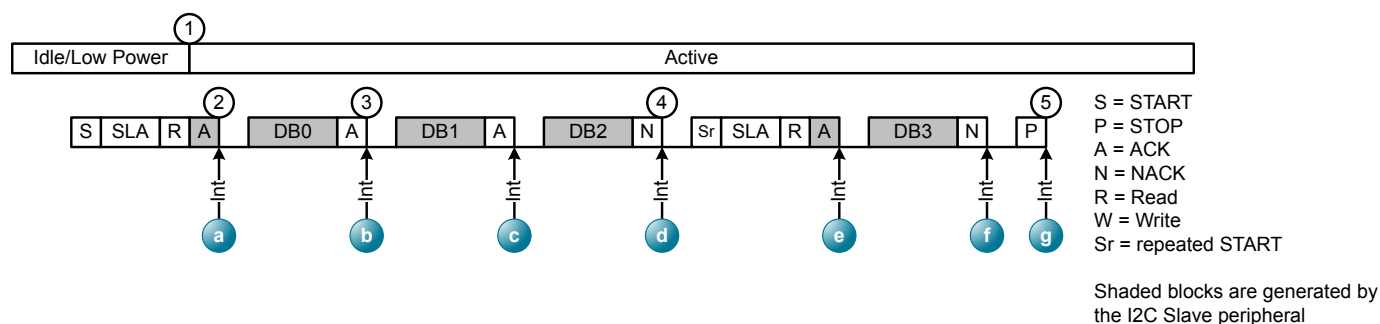
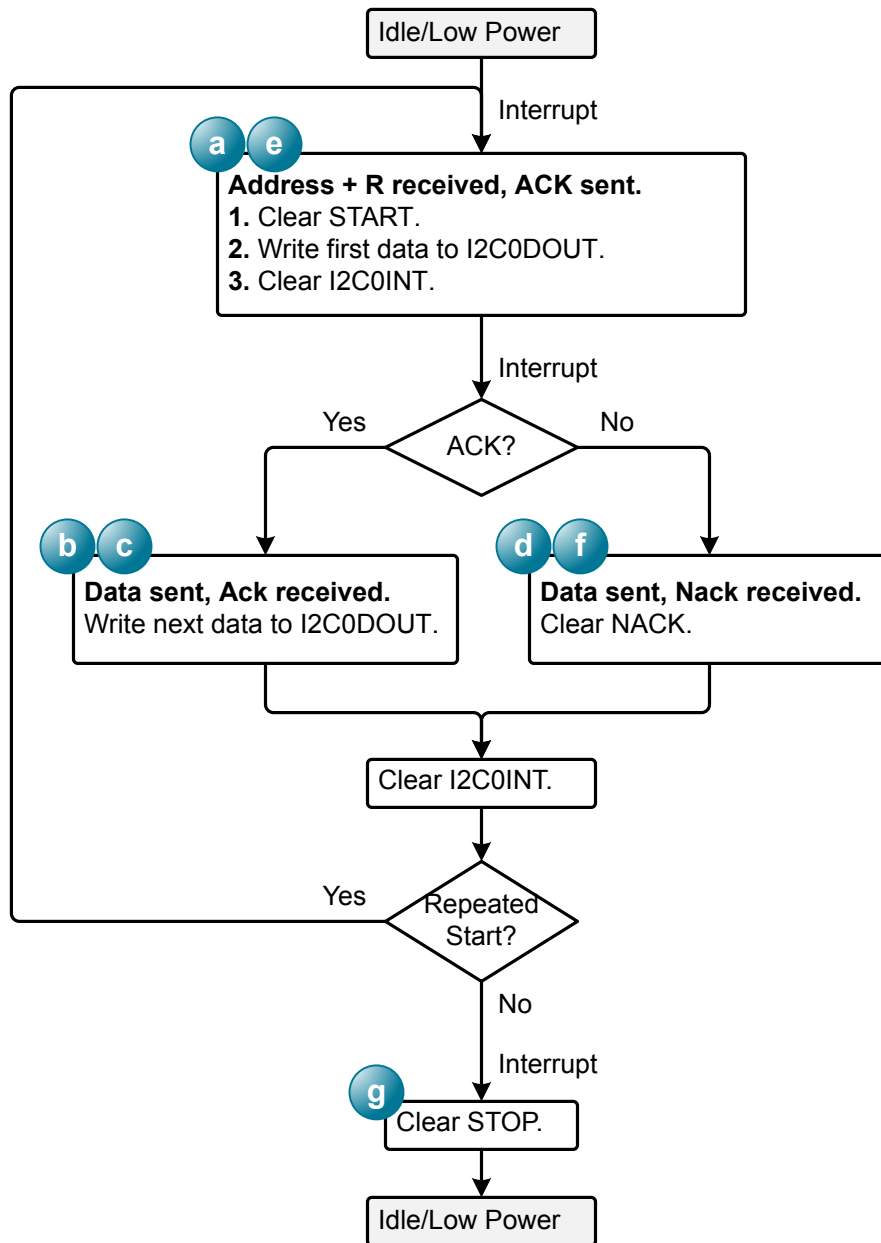

Figure 15.7. Example I2C Read Sequence with the I2C Slave Peripheral
Figure 15.8. I2C Read Flow Diagram with the I2C Slave Peripheral
2. An interrupt occurs after the automatic ACK of the address. The I2C peripheral holds the SCL line low for clock stretching until firmware clears I2C0INT. Firmware should read the data from the master and take the actions indicated by Figure 15.8 I2C Read Flow Diagram with the I2C Slave Peripheral on page 166.
Figure 15.7 Example I2C Read Sequence with the I2C Slave Peripheral on page 165 demonstrates an example sequence, including a repeated start, and Figure 15.8 I2C Read Flow Diagram with the I2C Slave Peripheral on page 166 describes the I2C Read sequence and firmware actions in each interrupt.